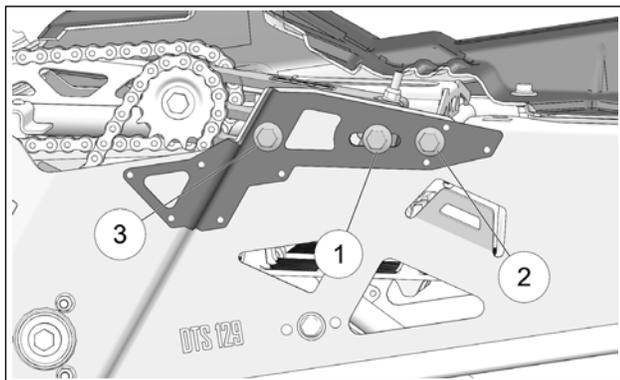

Figure 12
- Re-tighten in sequence chain tensioner mounting bolts (1), (2) and (3) to 90 N-m [67 lb-ft] of torque. See Figure 12.